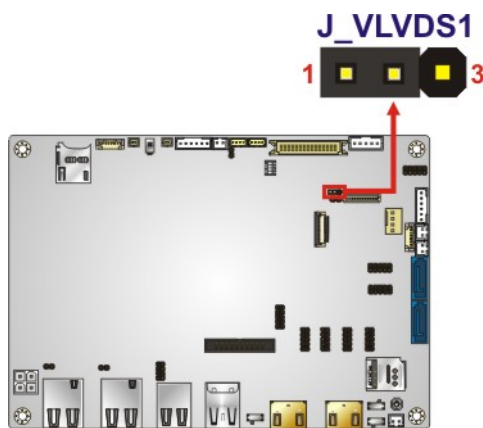

Figure 4-18: LVDS Voltage Selection Jumper Location
- Jumper Location:** See Figure 4-18